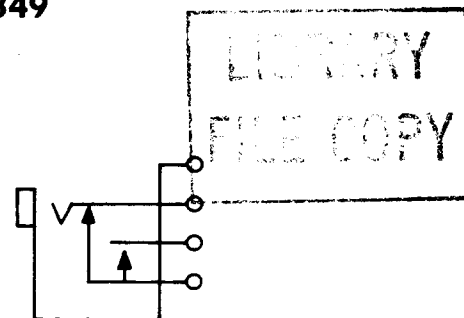

Fig. 2—303A or C Jack
2.02 **303A and C:** These single-mounted jacks (Fig. 2) are used with 1D, 1E, 153, 209, 241, 305, 327, 328, 347, 373, and 464 plugs. These jacks are heavily insulated and should be mounted with springs in a vertical plane. The 303C jack is designed to mount in the 252A jack mounting.